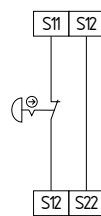

Fig. 7
**Single-channel emergency stop circuit with command devices to DIN EN ISO 13850 (EN 418) and EN 60947-5-5 (Fig. 7)**